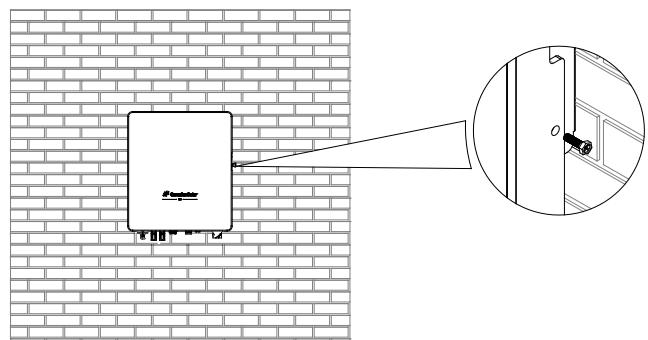

FIG. 6-10 Fix Both Sides of Inverter
- 2) Use two safety bolts to fix both sides of inverter to ensure the inverter fixed to the wall firmly, as per FIG. 6-10.